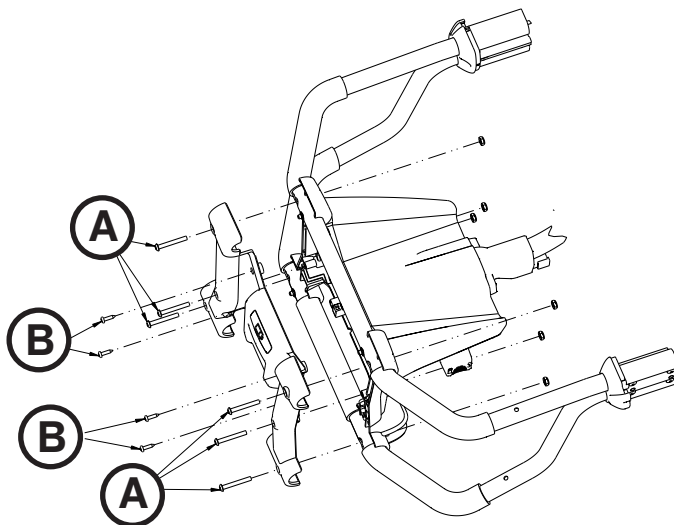

Figure 62
3. Using a T25 Torx driver, remove the six outer button head cap screws (A) from the face plate (Figure 62). Save all screws for reinstallation.
4. Using a T20 Torx driver, remove the four inner delta screws (B) from the face plate to remove the face plate (Figure 62). Save all screws and the face plate for reinstallation.